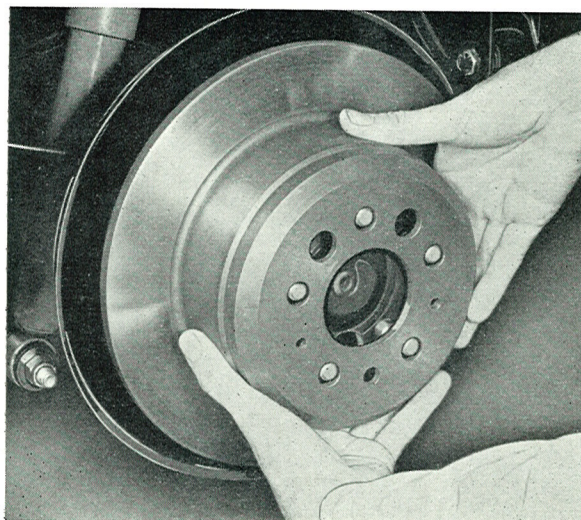

Fig. 5-85. Removing the brake drum
4. Remove the attaching bolts for the brake drum and lift off the drum, see Fig. 5-85.